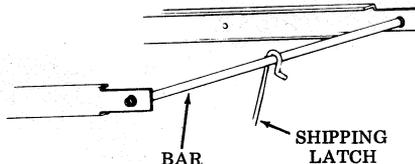

Fig. 3—Shipping Bar and Latch
*Danger:* Shipping bar is under heavy spring tension — RELEASE SLOWLY (Fig. 3).